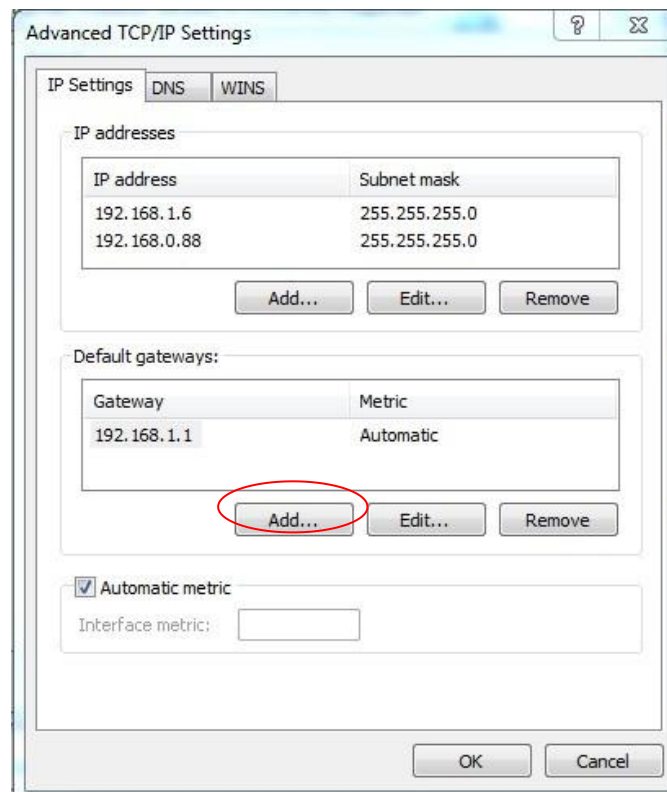

Figure 6.5
5) Click “Add” under “Default gateway”, enter to “TCP/IP Gateway Address”. (See Figure 6.5)